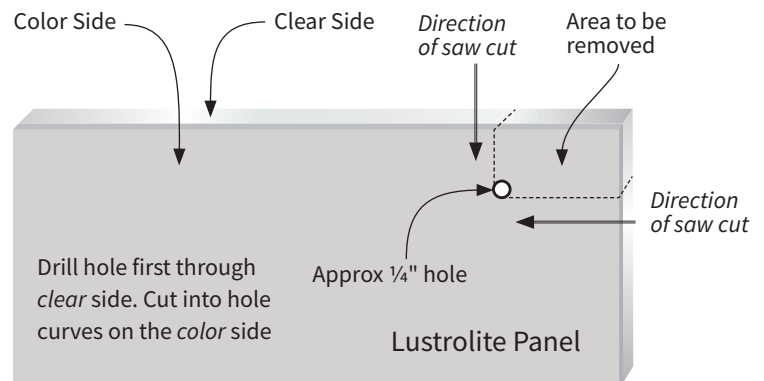

Figure 10: Creating a Cut Out
- Cut into the curve of the drilled holes using applicable saw (Figure 10)
Drilling for Door Knob, Plumbing or Other Items Requiring Large Circular Holes (Figure 10)